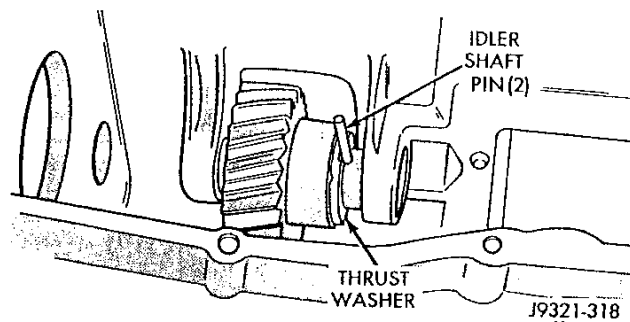

Fig. 56 Idler Shaft Pin Installation
(8) Tap idler shaft pins into place (Fig. 56).